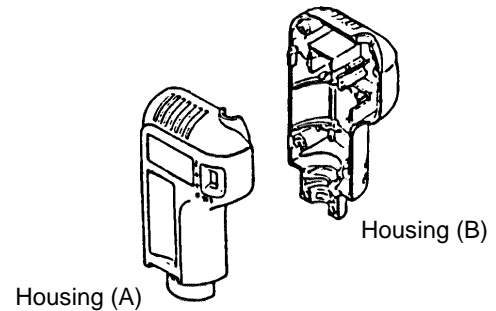

Fig. 4
- (1) Disassembly of Housing (B) ②: (See Fig. 4)